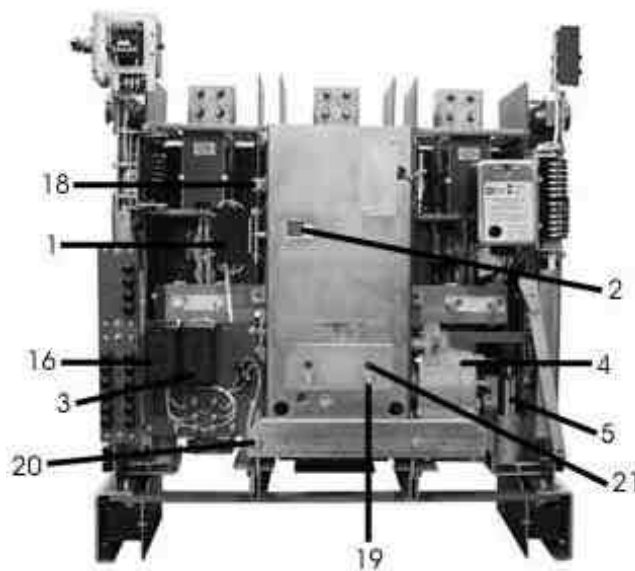

Figure 4 - Removable Unit
B. Inner Operating Mechanism (Figure 4 and 6)